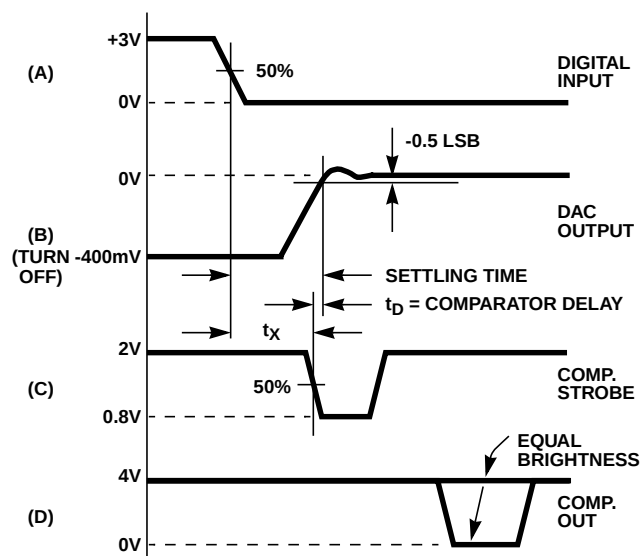

FIGURE 3B.
- Adjust the V_{LSB} supply for 50% triggering at COMPARATOR OUT. This is indicated by traces of equal brightness on the oscilloscope display as shown in Figure 3B. Note DVM reading.
- Switch the LSB to Pulse (P).
- Measure t_X from scope as shown in Figure 3B. Settling time equals $t_X + t_D$, i.e., $t_X + 15ns$.